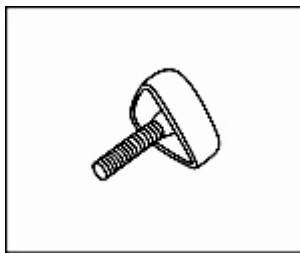

Figure 1
1. Locate the screwdriver with the triangular cap called the tension key (see figure 1)